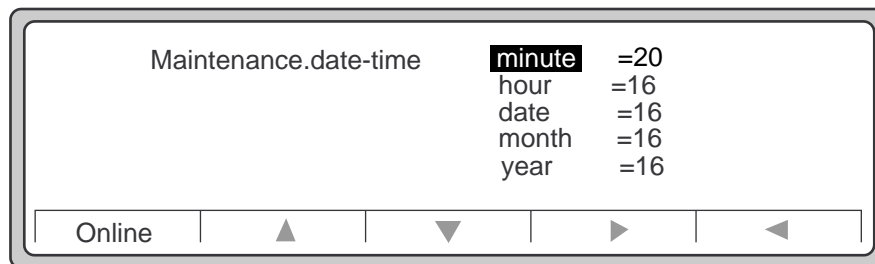

Figure 2-84 Maintenance.date-time Settings
5. Press the **right arrow** to highlight the **date-time** settings, as shown in Figure 2-84.
9. When you have moved to the correct value, press **Select**. You will return to the **Maintenance.date-time** screen shown in Figure 2-84. At this point, you can repeat the procedure from step 6 to change additional values, or if you are finished, press **Online** to return to the **Main Screen** and verify the correct date and time.